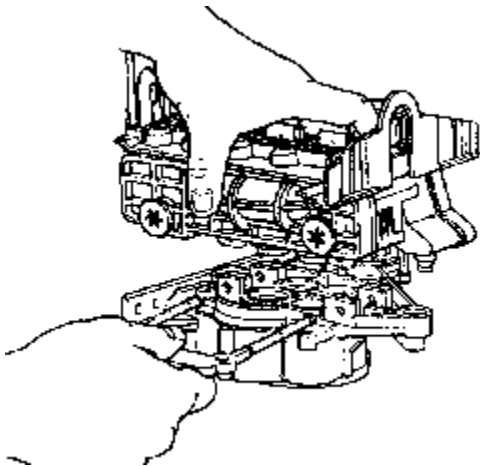

Figure 16
5. Apply downward hand pressure on the valve and remove the locking bar, Figure 16.
6. Using the rocking motion, lift the valve from the tank adaptor, Figure 16. If the o-ring seals come off with the valve put them back into the tank adaptor sockets. Lubricate the o-rings with silicone lubricant.